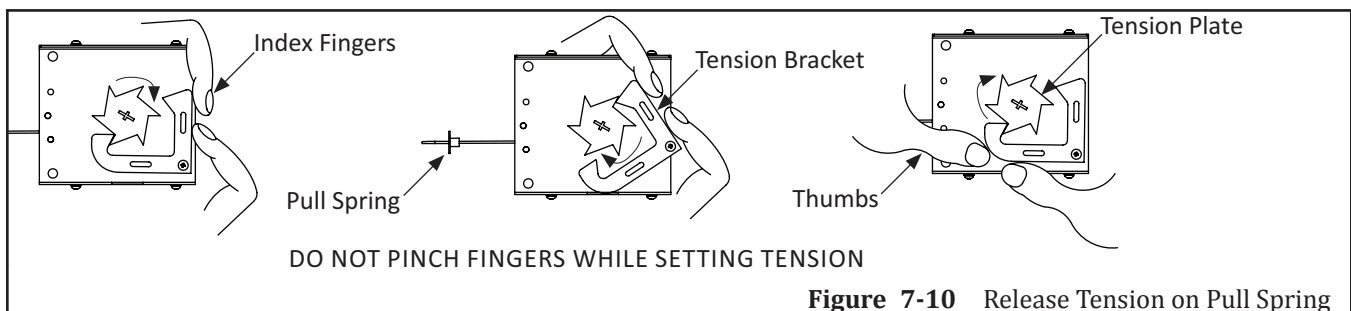

Figure 7-10 Release Tension on Pull Spring
2. With both Index fingers carefully push the Tension Bracket forward so the Tension Plate clicks clockwise. Please see Figure 7-10.